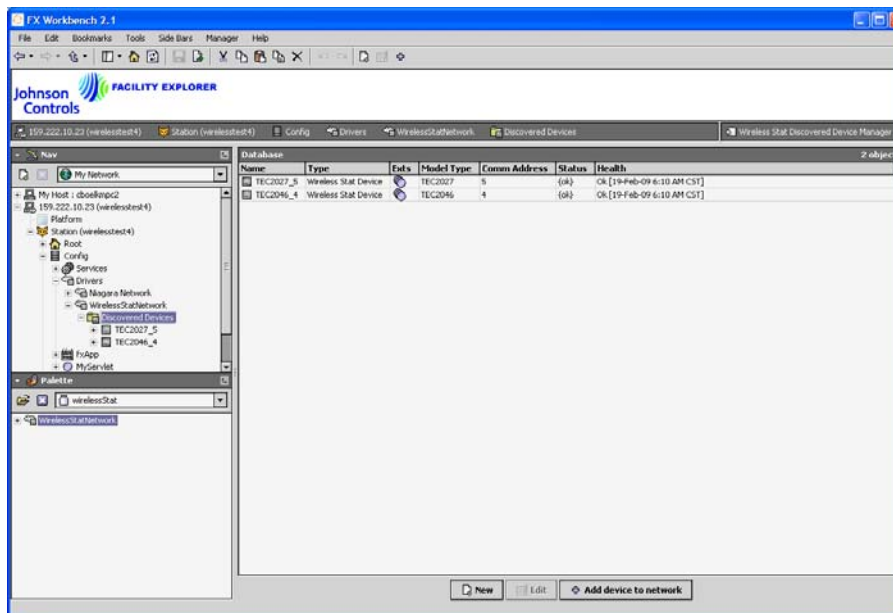

Figure 10: Discovered Devices
11. From the File menu, click Save. The devices appear in the DiscoveredDevices folder of the WirelessStatNetwork (Figure 10).
1. From the Nav side bar, double-click DiscoveredDevices (Figure 10). This folder lists the thermostats with the same PAN ID and channel settings as the FX Supervisory Controller.
1. From the Nav side bar, double-click DiscoveredDevices (Figure 10).